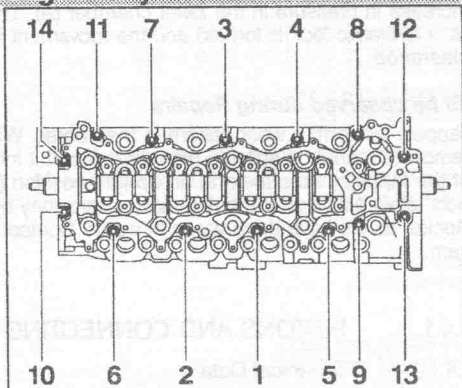

Fig. 1.46. — The camshaft housing bolts are tightened in the sequence shown (DK5 engine).
- Lower the camshaft housing over the cylinder block (camshaft must not move) and insert the securing bolts. Tighten them finger-tight. In the order shown in Fig. 1.46 and in several stages tighten the bolts in the order 1 to 14 to 2.0 kgm (14.5 ft.lb.).